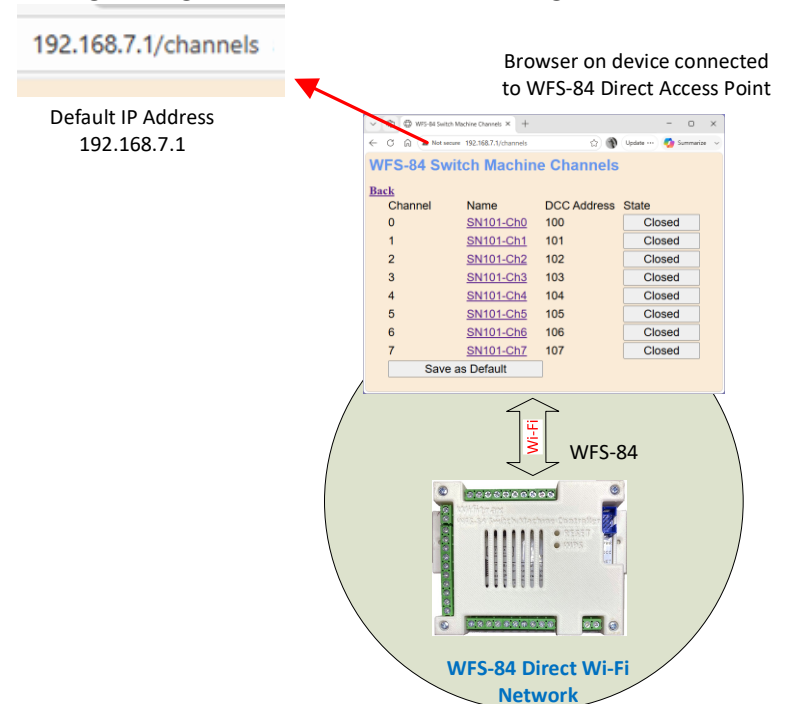

Figure 7 Controlling the WFS-84E Channels via its web interface
- (1) Consider the various system-level options for turnout control described in this document and decide how your turnouts are ultimately to be controlled. First you will need to connect up and get it working as a single unit as Figure 7.
Figure 7 shows how the web pages generated in the WFS-84E control its connected switch machines via Wi-Fi.